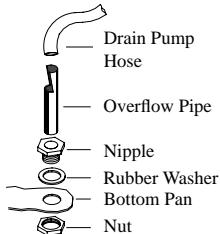

Fig. 2
- Install overflow assembly.** Remove nut and place nipple through the hole in the pan, with the rubber washer between the pan and the head of the drain nipple (Fig. 2). Screw on nut and draw up tight against bottom of pan. Insert overflow into nipple to retain water. The overflow pipe comes from the factory connected to the dump pump hose. The overflow pipe may be removed to drain pan when necessary. A garden hose may be screwed on the drain nipple to drain water away from your unit.